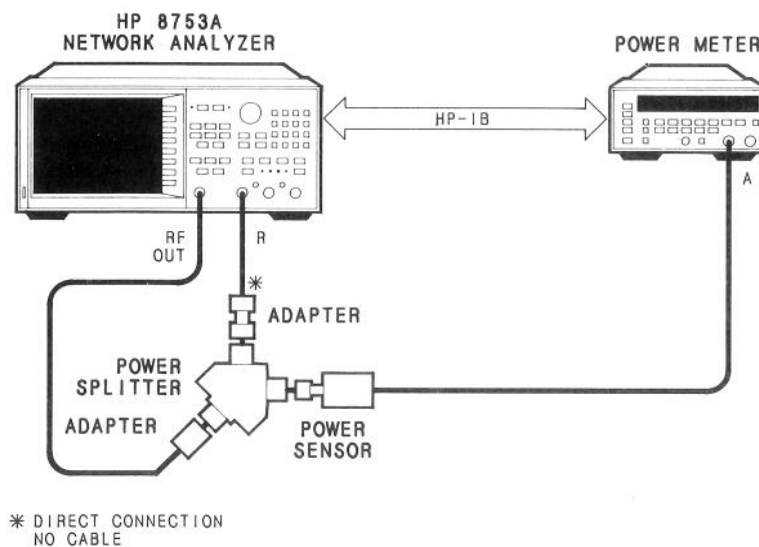

Figure 23. Input R Sampler Correction Setup.
10. Press **[YES]** at the prompt to alter the correction constants. At the next prompt, connect the RF OUT of the HP 8753A to the input of the power splitter, one splitter output to input R and the other splitter output to the power sensor as shown in Figure 23. Then press **[CONTINUE]** to run the test. It takes a few minutes to run.